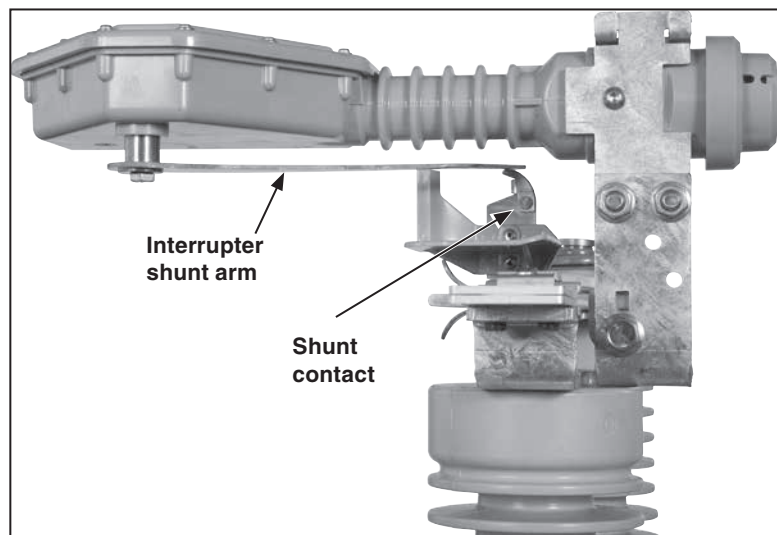

Figure 27. Interrupter shunt arm will be guided into position by the shunt contact.
- The interrupter shunt arm should be guided into position by the curved back of the shunt contact. See Figure 27.